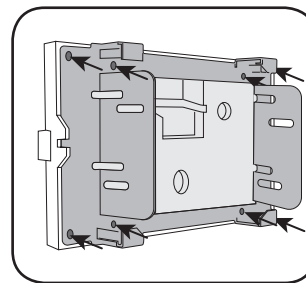

Fig. 3.2
- Mount the radio bracket to the back of the VW1 bezel using the (4) four supplied Phillips screws. Secure the screen to the bracket using the hardware provided with the Pioneer radio. (Fig. 3.2)